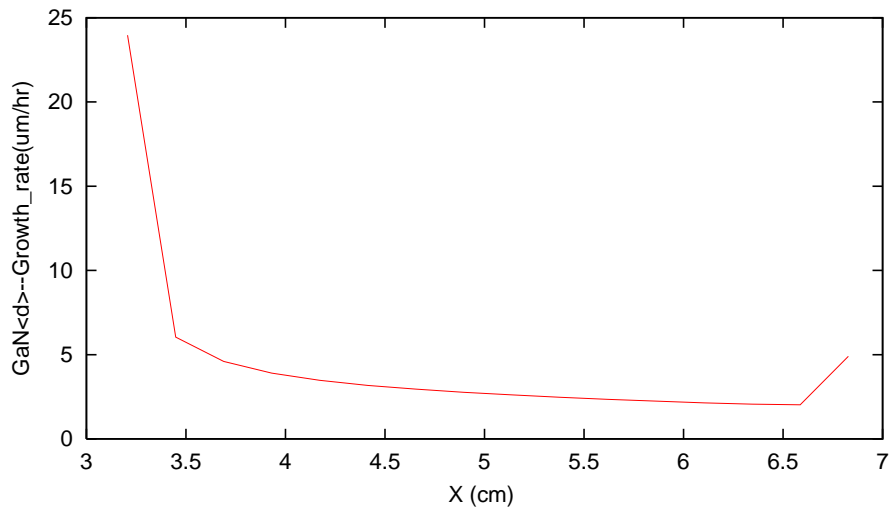

Figure 7: Growth-rate vs. position plot may be used to optimize the efficiency and uniformity of the growth.
- 7) Growth-rate of GaN as a function a position in a horizontal reactor is given in Figure 7.